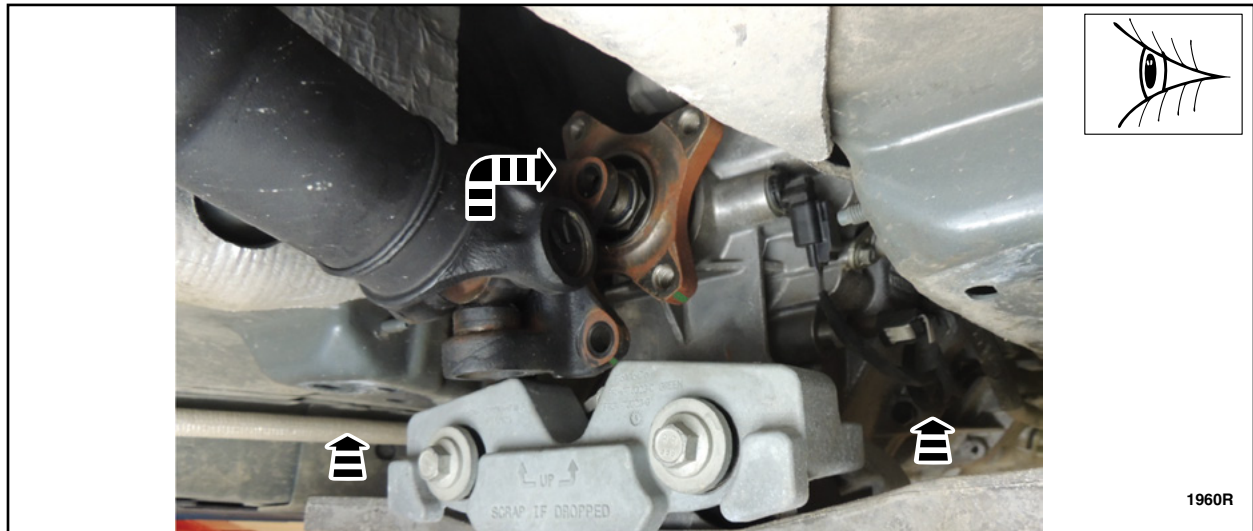

FIGURE 18
23. Raise the transmission crossmember, while at the same time aligning the driveshaft to the transmission flange using the paint stick mark. See Figure 18.